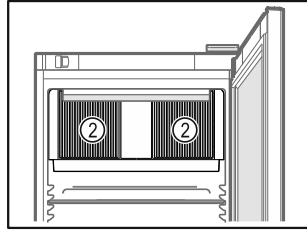

Fig. 59
- Ventilation slots Fig. 59 (2) for recirculation fan in the interior must be kept clear.